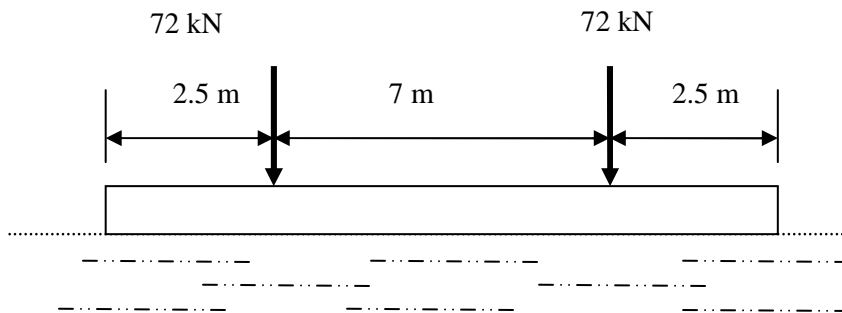

Fig Q5
5. A pontoon 12 m long and 2 m wide of negligible mass floats level in fresh water and carries two concentrated loads of 72 kN each as shown in Fig Q5.
- (a) Sketch the shear force and bending moment diagrams along the length of the pontoon, showing the maximum and minimum values. (6)
- (i) the position of the points of contra flexure from each end; (6)
- (ii) the increase in draught of the pontoon due to the two applied loads. (4)